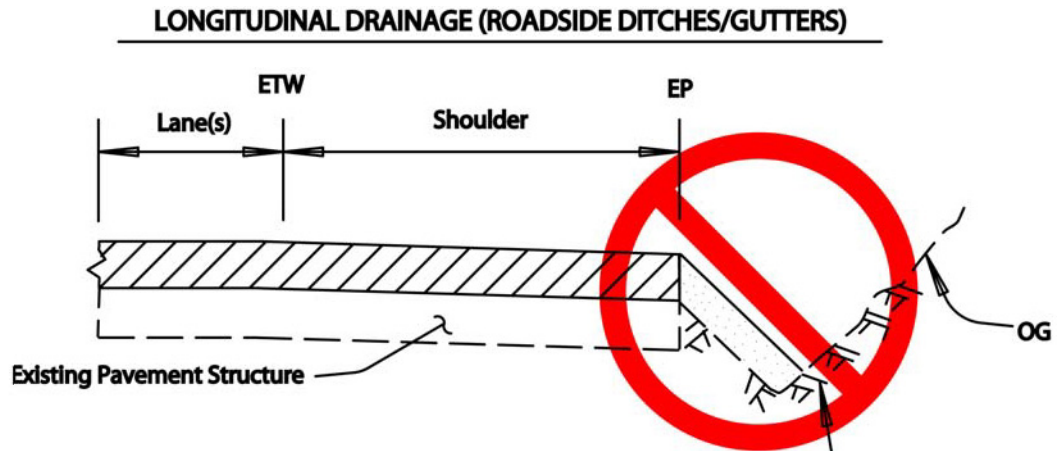

Figure 5
- b. In roadside ditches or gutters (See Figure 5)1